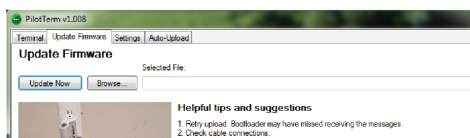

Figure 11: Update Parameter
7. See Figure 11. Select Update Firmware tab, click Browse to select the .AVB update, then click the Update Now button.